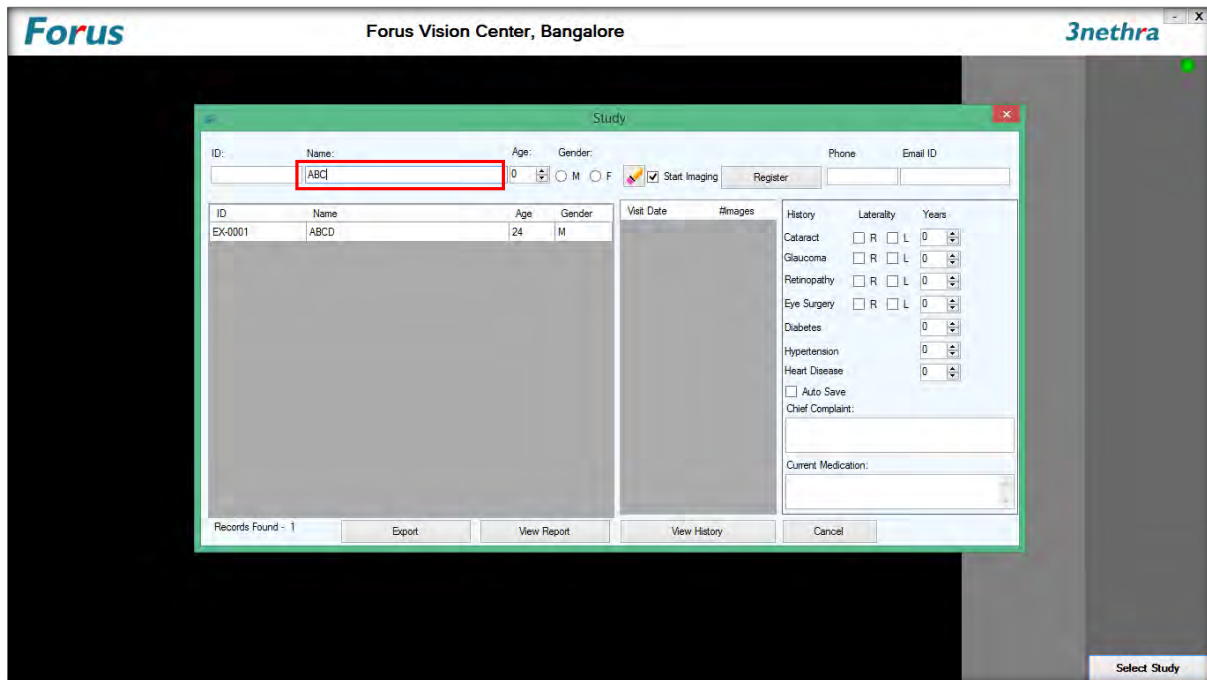

Figure 14: Search based on Name
1. Search for the individual registration by entering at least the first three characters of the name or the ID number, in the relevant field as shown in Figure 14.